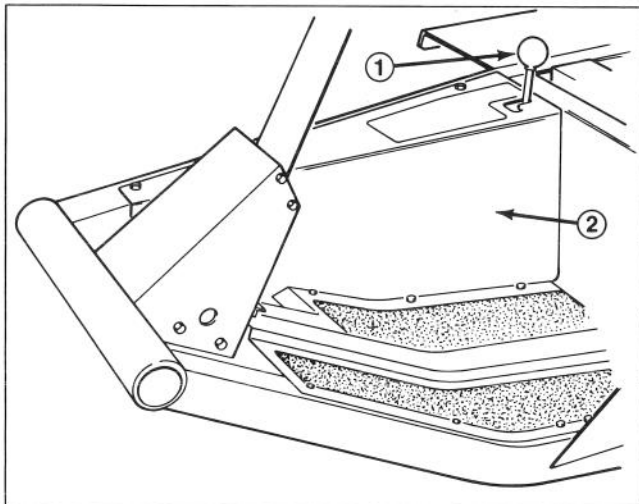

Figure 3
1. Remove main deck lift valve knob and side cover (Fig. 3).